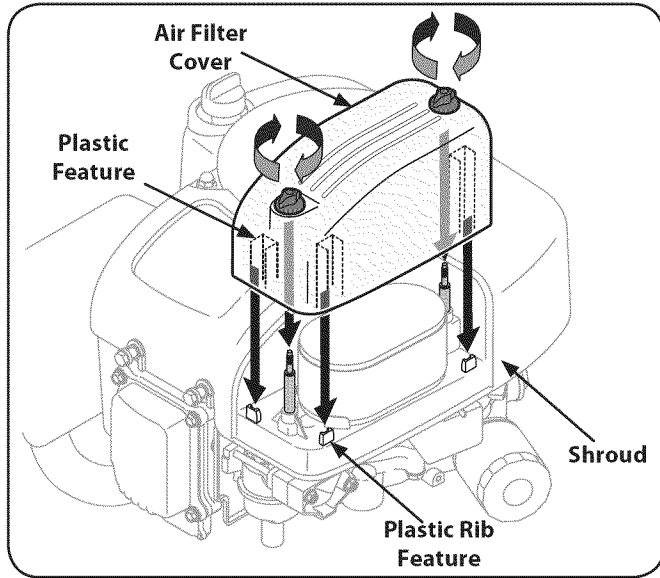

Figure 17
- Attach the air filter cover, making sure to align plastic rib features on the shroud to the plastic features on the air filter cover. See Figure 17. Turn thumb screws clockwise until snug. Check for any misalignment.